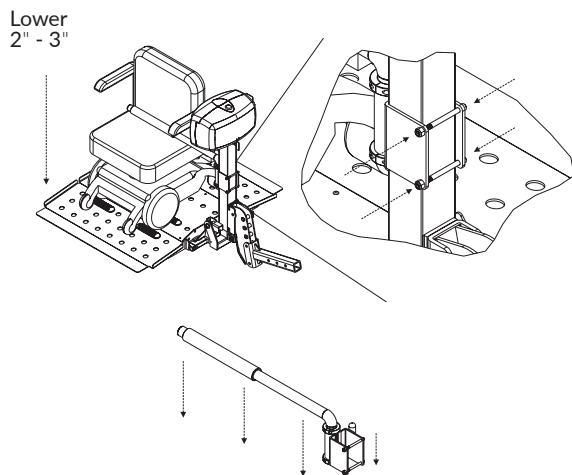

Figure 6-9
4. Lower the platform approximately 2" to 3" and allow the arm to drop along with the seat. Retighten the two bolts and nuts. **Figure 6-9.**